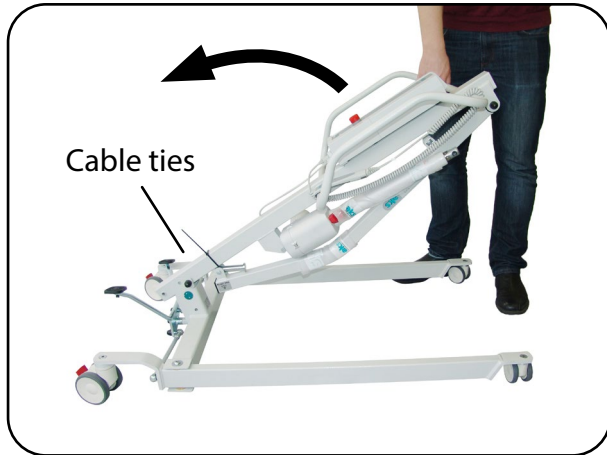
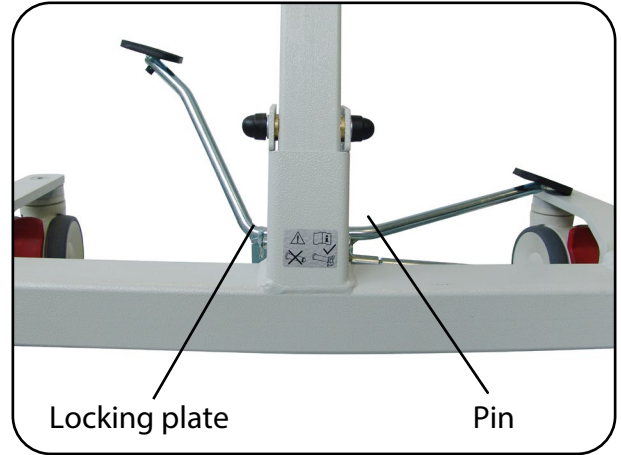

Fig. 6.2.03 - Setting up the stand mast
Fig. 6.2.04 - Stand mast holder
5. Set the stand mast upright (Fig. 6.2.03) and fully align the hole on the stand mast with the hole on the stand mast holder. Then secure the stand mast again using the pin and the locking plate (Fig. 6.2.04).
6. Remove the cable tie that holds the lifting arm in place on the stand mast as a transport lock (Fig. 6.2.03).